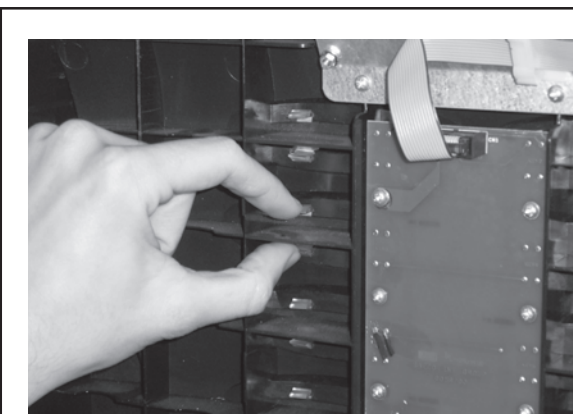

fig.28
- release the transparent plates from the internal side of the door by pressing the retaining tabs (fig.28)